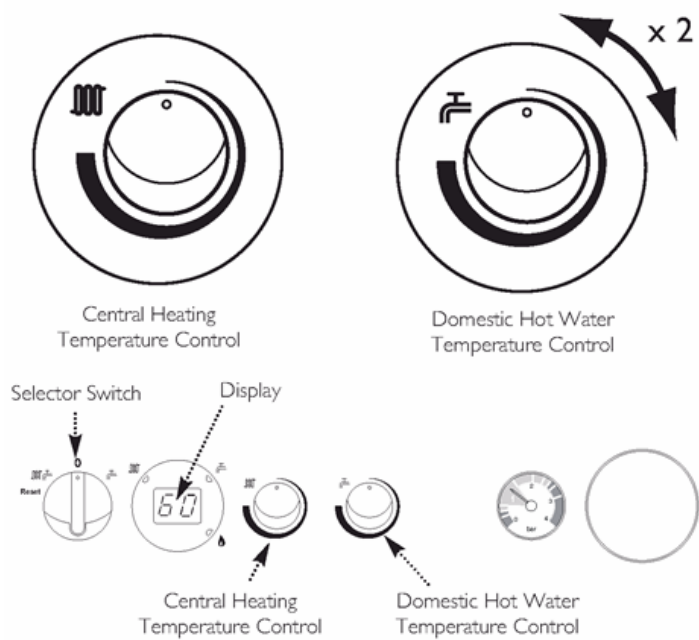

Fig. 77
3. Turn both temperature control knobs fully anticlockwise, then quickly turn the DHW temperature knob 1/4 clockwise twice and back fully anticlockwise (Fig. 77).